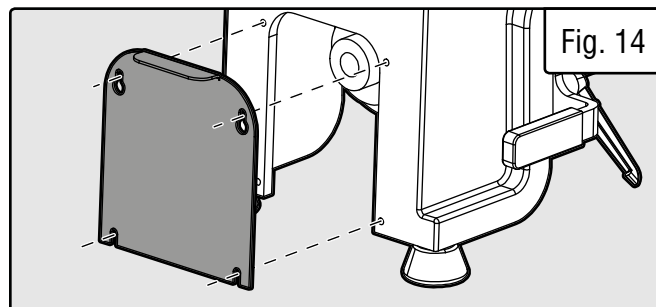

Fig. 14
3. Loosen (but do not remove) the four screws holding the lower belt drive plate (Fig. 14) onto the left side of the headstock. Lift and remove the lower belt drive plate.